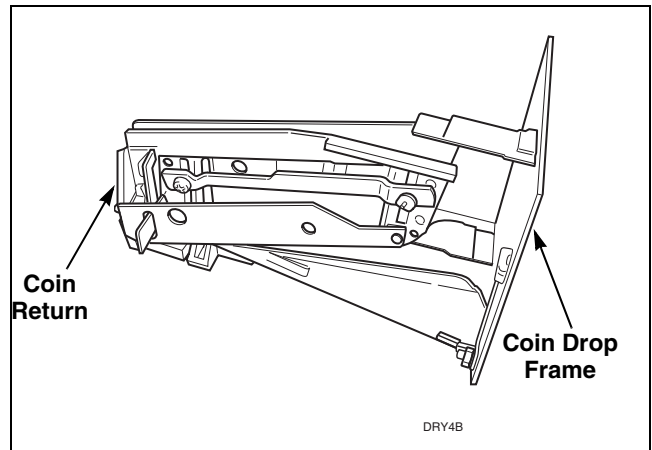

Figure 81
- Remove coin return from coin drop frame. Refer to *Refer to Figure 81*.